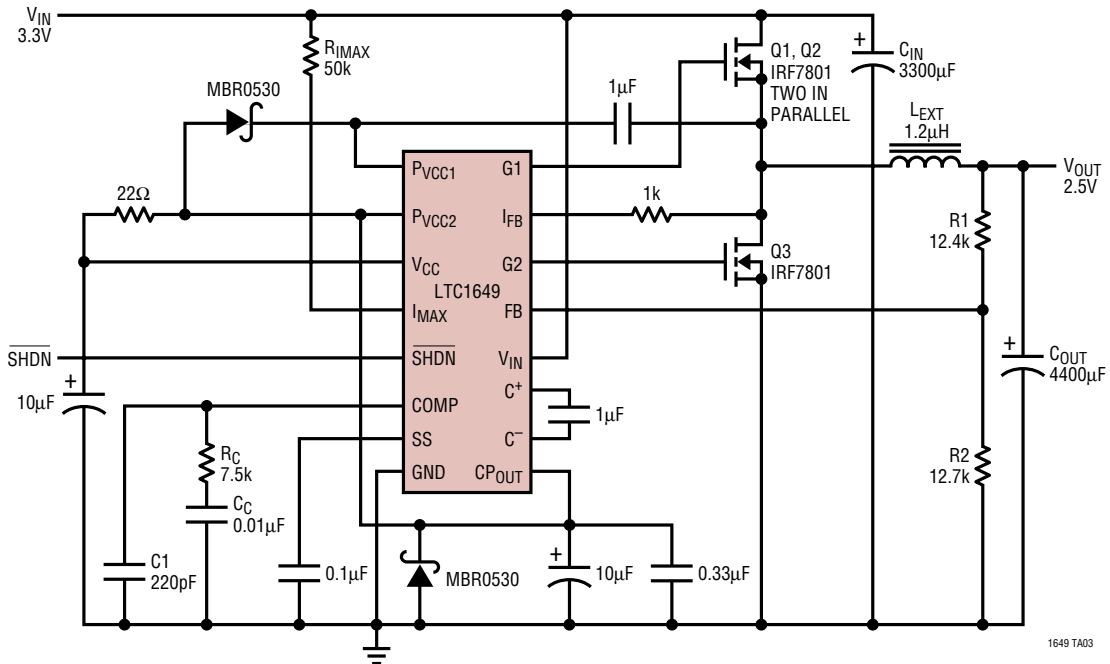

Figure 1
**$P_{VCC1}$  (Pin 2):** Power  $V_{CC}$  for Driver 1. This is the power supply input for G1. G1 will swing from  $P_{VCC1}$  to GND.  $P_{VCC1}$  must be connected to a potential of at least  $V_{IN} + V_{GS(ON)}(Q1)$ . This potential can be generated using a simple charge pump connected to the switching node between the two external MOSFETs as shown in Figure 1.